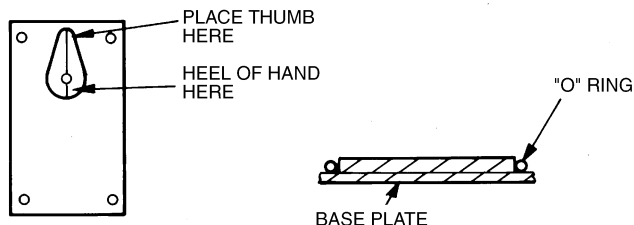

Fig. 4 — Reinstalling Baseplate
2. Place the tab of the baseplate into the slot on the reservoir. Place a thumb near the tab and snap the baseplate in with the heel of your other hand. Be sure baseplate is flush with the bottom of the reservoir. See Fig. 4.